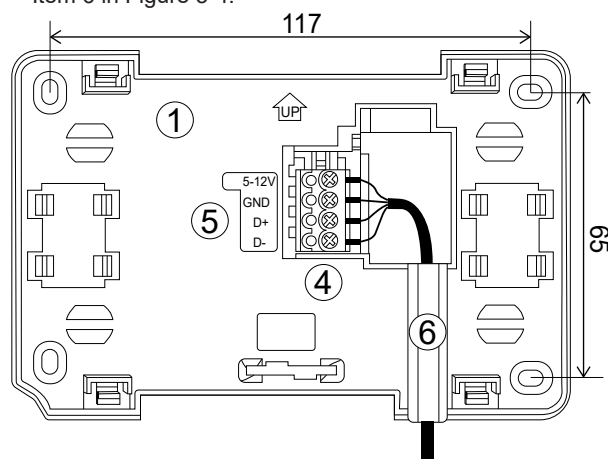

Figure 5-4: Mounting plate wiring
2. Connect the cable to the screw terminal as described on the plate. Refer to Figure 5-4. The cable can be recessed in the wall or it can run over its surface - In this case the cable should be additionally placed in the cable channel. Refer to Item 6 in Figure 5-4.
- Drill holes in the wall and use screws to fix the mounting plate in position on the wall, observing the correct orientation. (Refer to Figure 5-4).